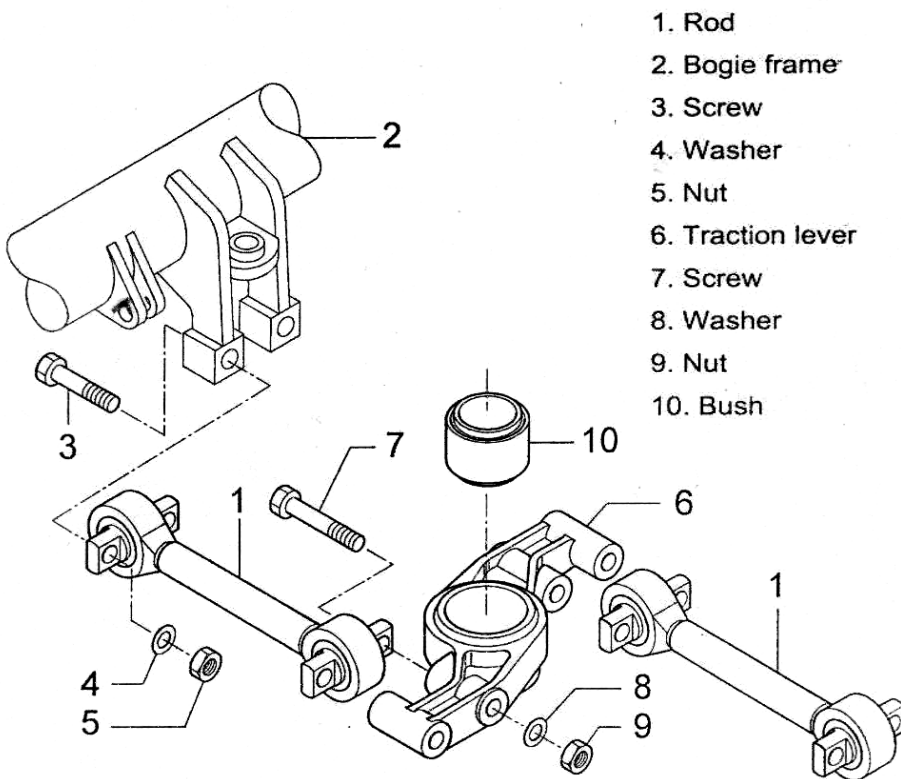

Fig. 3.13 Dismounting the Traction Center
In order to dismount the traction center (Fig. 3.13), disconnect the rods (1) from the bogie frame (2), extracting the screws (3), the washers (4) and the nuts (5). Then separate the rods (1) from the traction lever (6) extracting the screws (7), the washers (8) and the nuts (9). Then extract the bush (10) from the traction lever (6) using a press.